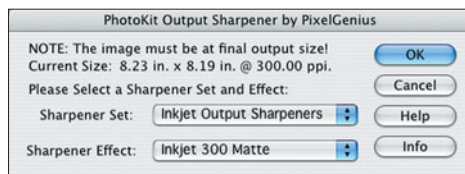

Figure 7.46 PhotoKit Sharpener offers settings for specific paper type and file resolution.
2. Apply output sharpening (see Figure 7.46).